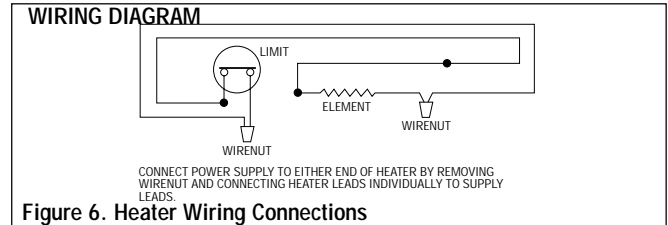

Figure 6. Heater Wiring Connections
9. Connect supply wiring to heater as described in Figure 6, or as shown in the wiring diagrams supplied with the accessory kits intended for use with this heater.